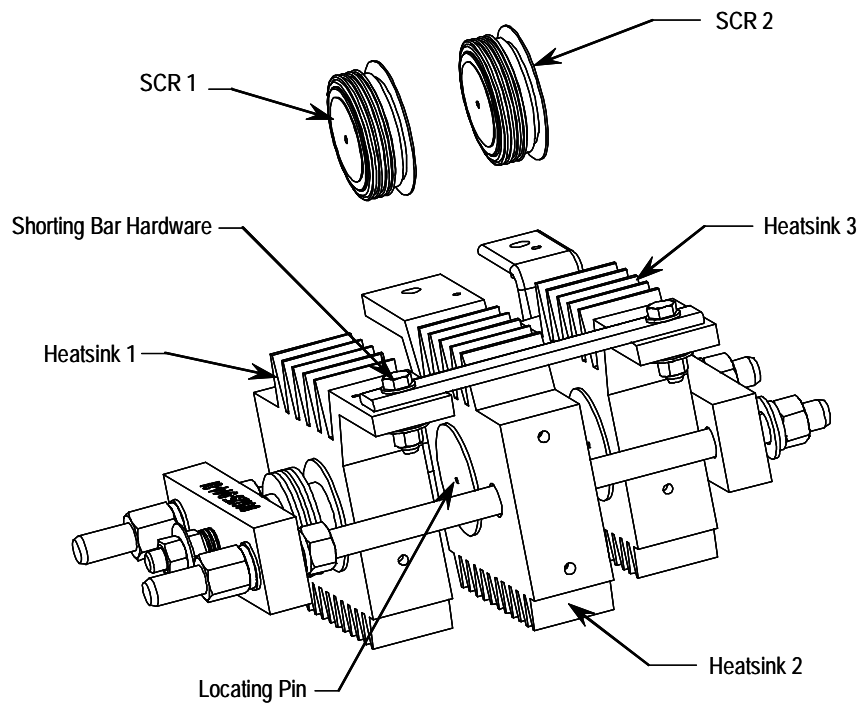

Figure 9.7 – Removal of SCR (1000 to 2400 V, 180/360 A)
8. Place the module on a flat surface (see Fig. 9.7, 9.10 and 9.14). When tilting the module, ensure that wires are not damaged.
5. Place the new SCRs in position starting from the top and pushing the heat sinks together as you proceed down the stack. Make sure the SCRs are positioned and oriented properly. Refer to Figures 9.7, 9.10, and 9.16.